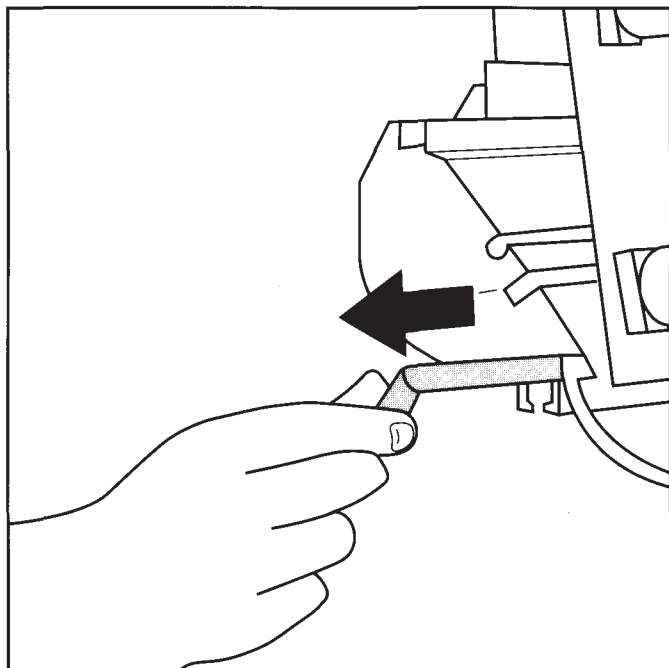

fig. 2
Pull the plastic locking pins (18A) out (fig. 2) and detach the acrylic sheet (19) from the aluminium profile.